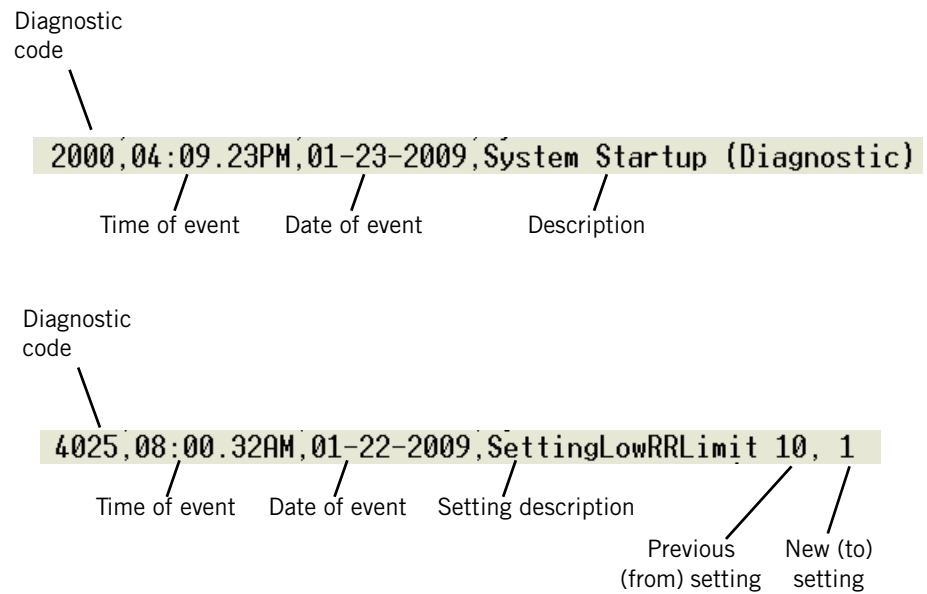

Figure 6-33: Interpreting the DRPTA Report
6. Figure 6-33 shows example lines of a DRPTA report and how to interpret them.